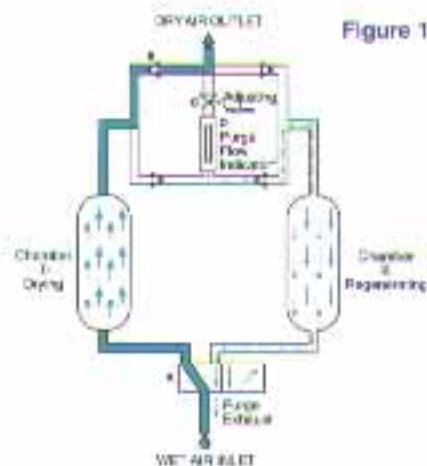

Figure 1
In Figure 1, wet incoming air passes through switching valve (A) and is directed upward through chamber ① where it contacts the desiccant. Activated alumina desiccant is used to remove water vapor from the air. Air drying takes place by adsorption which occurs because the moisture level in the air stream is greater than the moisture level on the desiccant surface. Adsorption is an exothermic (heat releasing) process. As drying takes place, heat is released and is stored in the desiccant bed for use in the regeneration cycle.